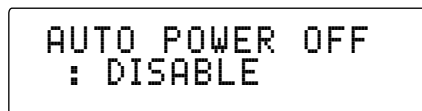

Figure 60
2. Then press and hold the ENTER Push-button a second time and the display will then indicate “AUTO POWER OFF, : DISABLE”. Refer to figure 60.